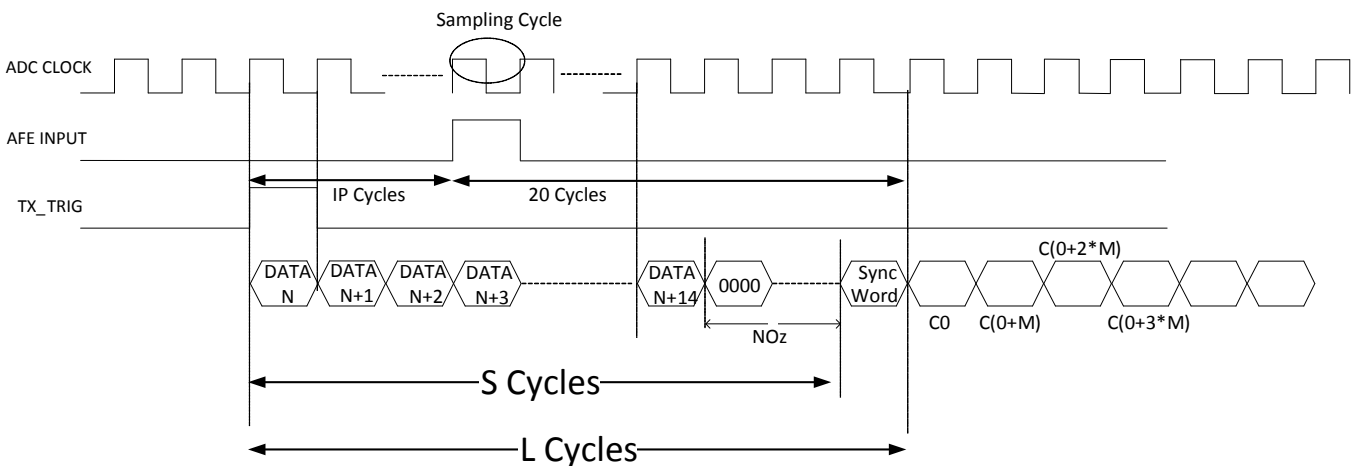

Figure 96. Measured Latency Timing at Any M
Figure 96 shows a generic timing diagram. The number of zeros comes before the sync word is equal to Z. The sync word comes after S number of cycles, impulse response starts coming after L number of cycles, and input impulse is given after IP cycles with respect to TX_TRIG signal. Therefore, for different decimation factor (M), values of these numbers are listed in Table 25 and Figure 96.